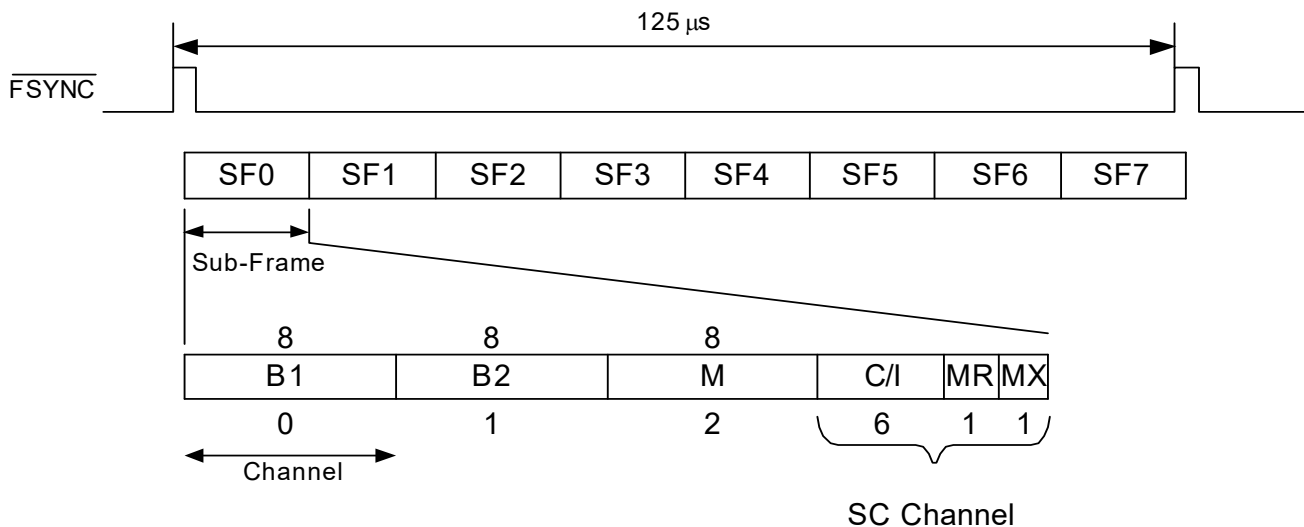

Figure 43. Time-Multiplexed GCI Highway Frame Structure
of the device, and one Signaling and Control channel (SC) for communicating status of the device and for initiating commands. Within the SC channel are six Command/Indicate (C/I) bits and two handshaking bits (MR and MX). The C/I bits are used for status and command communication, whereas the handshaking bits Monitor Receive (MR) and Monitor Transmit (MX) are used for data exchanges in the Monitor channel. Figure 43 illustrates the contents of a GCI highway frame.
Figure 43 illustrates the Monitor channel communication protocol. For successful communication with the Si3050, the transmitter should anticipate the falling edge of the receiver's acknowledgement. This also maximizes communication speed. Because of the handshaking protocol required for successful communication, the data transfer rate using the Monitor channel is less than 8 kbytes/second.